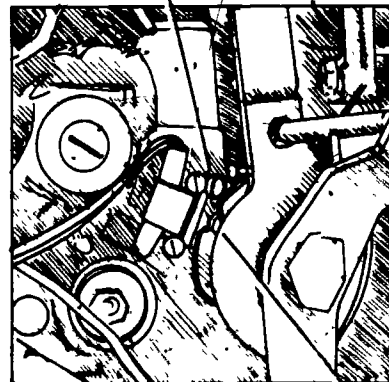

FIGURE 1
- C. Remove control access cover screws and cover (Figure 1)
4. Hold starter key on, and slowly retard throttle control lever until engine starts (Figure 1)
- B. Check neutral safety switch using a continuity test light (Figure 1).